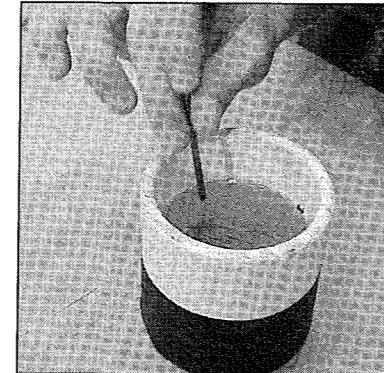

Figure 3
5. Remove any bubbles by inserting a toothpick into the resin to bring them to the surface. (Figure 3)